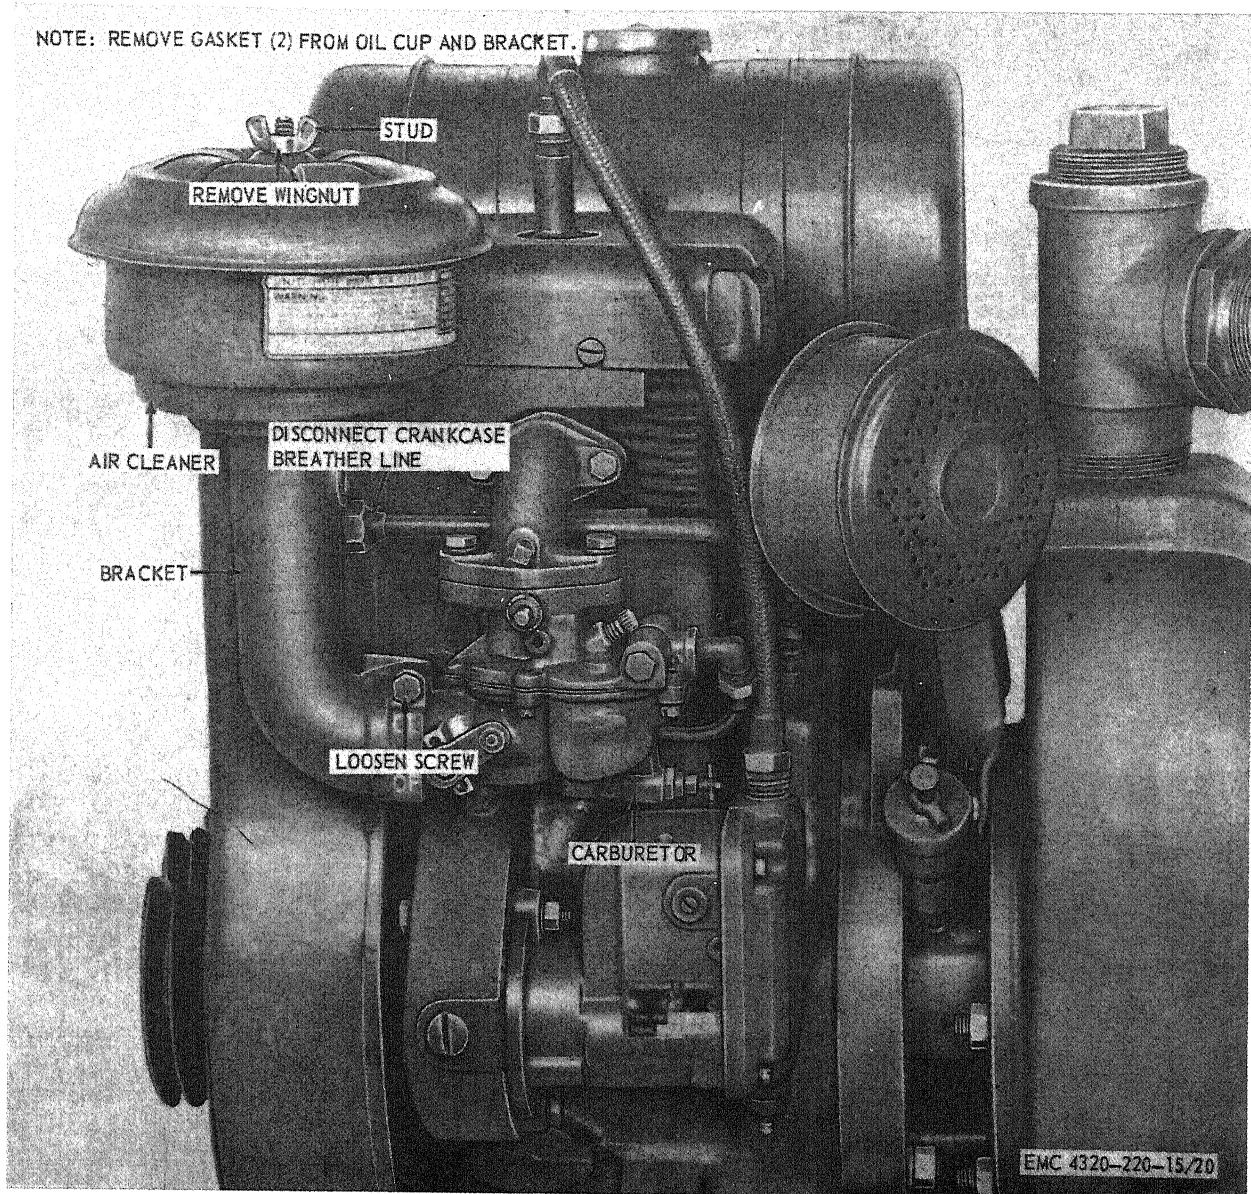

Figure 20. Engine air cleaner and bracket, removal and installation.
- Remove and install the engine air cleaner and bracket as shown by figure 20.